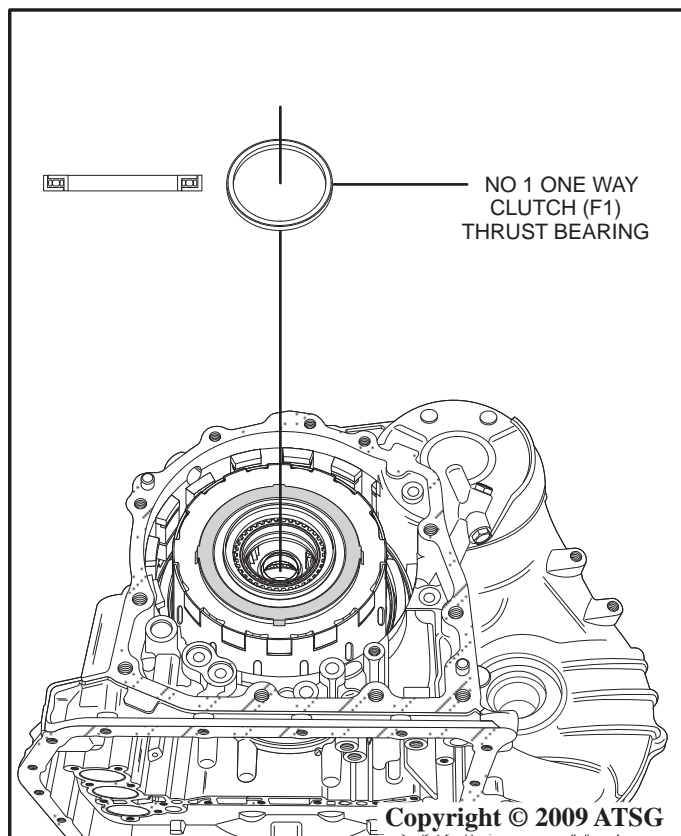

Figure 165
37. Coat the No. 1 one way clutch (F1) thrust bearing with a small amount of Trans-Jel® and install it in the direction shown in Figure 165.